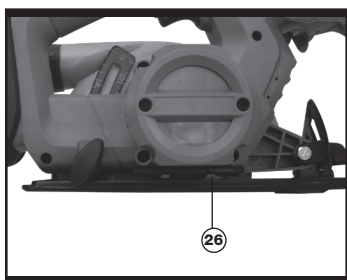

Fig 6
| 26. | HEX KEY STORAGE AREA (See Fig.6) |
4. HEX KEY STORAGE (See Fig.6)